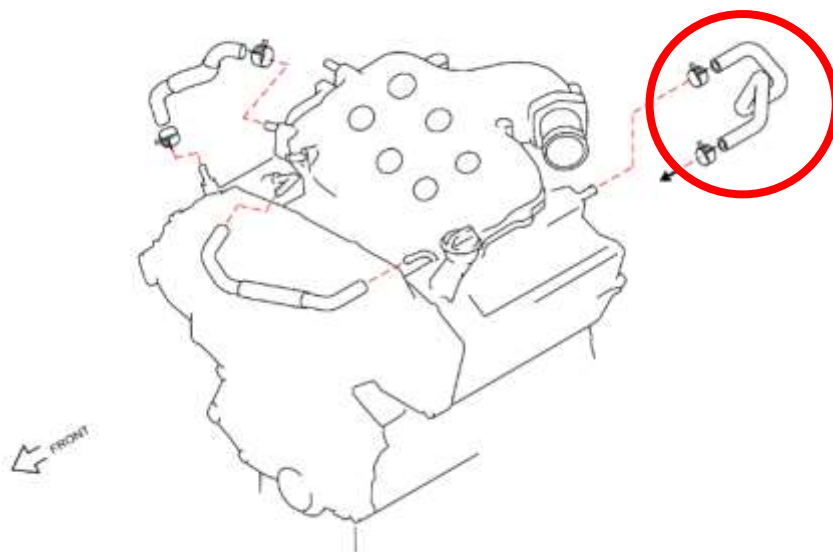

Figure 7
17. Remove the rear PCV Hose from the rear of the Valve Cover. *Figure 7.*